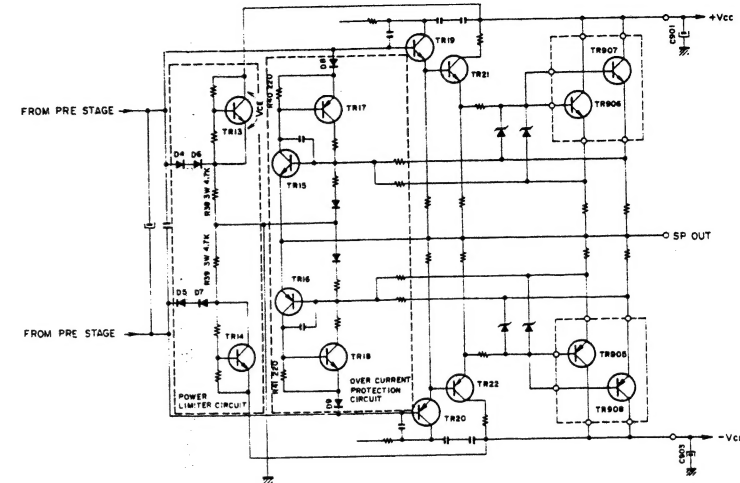

Fig. 13
4) Over Current Protection Circuit (Refer to Fig. 13)
When the speaker terminal of the power amplifier is shortcircuited or when the load impedance equivalently becomes too low due to too many speaker connections, the output stage transistor breaks down because of excessive power consumption by the transistors or of excess current. The circuit shown in Fig. 13 composed of TR15 and 17 and TR16 and 18 prevents this damage. TR15 and 17 circuit operates for excessive + signal current and TR16 and 18 operate for excessive - signal.
5) Power Limiter Circuit (Refer to Fig. 13)